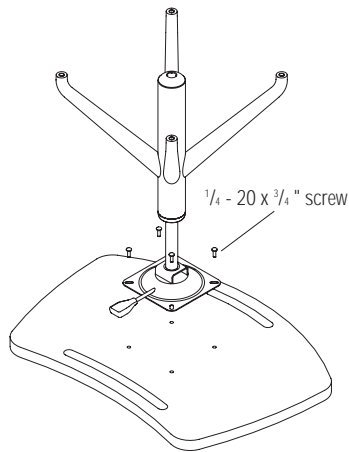

Figure 1 - Pneumatic-height base
3. Secure the bases to the underside of the table using the screws provided (Figures 1 & 2).